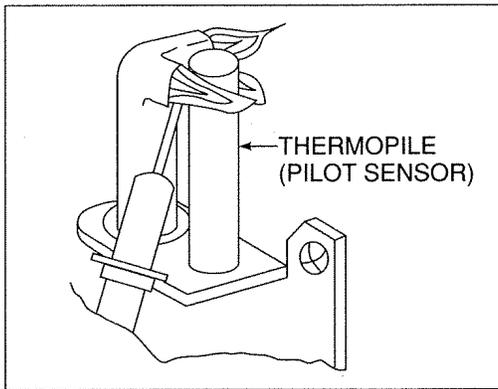

Figure 11
2. Adjust the pilot key to provide properly sized flame. See Figure 11.
Periodically visually check the flame of the pilot and burner, making sure the flames are steady; not lifting or floating. The flame color should be blue with yellow tips. The top 3/8" of the pilot thermopile should be covered with flame. See Figures 11 and 12.